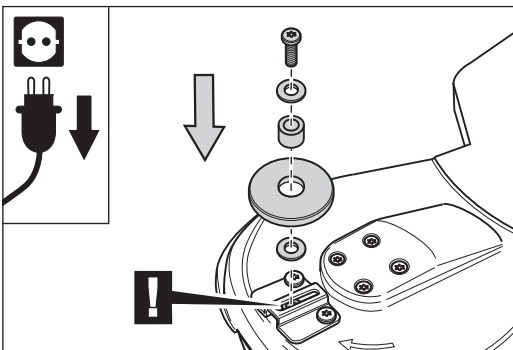

Fig. 66 Assembly of the wall-protecting roller. Pay attention to the nut in the holder!
- 5 Insert the bush in the new wall-protecting roller and place it on the holder of the wall-protecting roller with a washer on each side. Ensure that the middle of the roller is located over the nut in the holder (Fig. 66)!